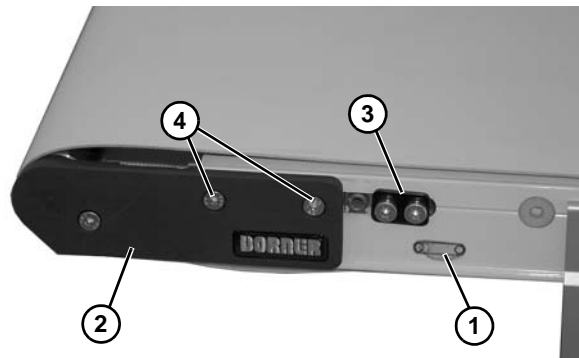

Figure 5
2. On tension end of the conveyor, identified with a  label (**Figure 5, item 1**), push in head plate assembly (**Figure 5, item 2**): On both sides of conveyor, loosen and move cam tracking assemblies (**Figure 5, item 3**) (if equipped) away from head plates, then loosen fastening screws (**Figure 5, item 4**) and push head plate assembly inward.
- If equipped with cam tracking assemblies (**Figure 5, item 3**), adjust belt tracking. Refer to “Conveyor Belt Tracking” on page 20.